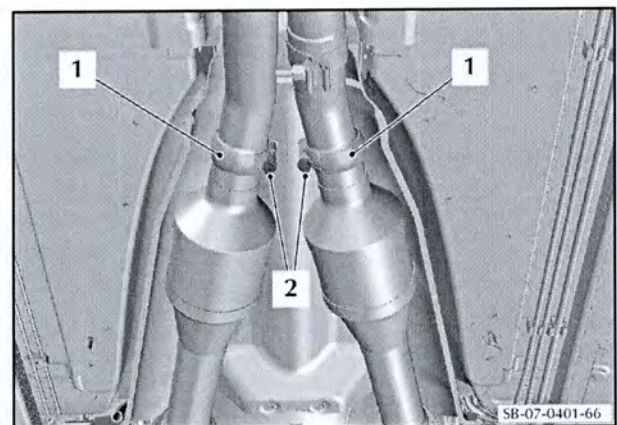

Figure 65
127. Move the two clamps (1) into the correct positions on the catalytic converters and pipe assemblies (refer to Figure 65).